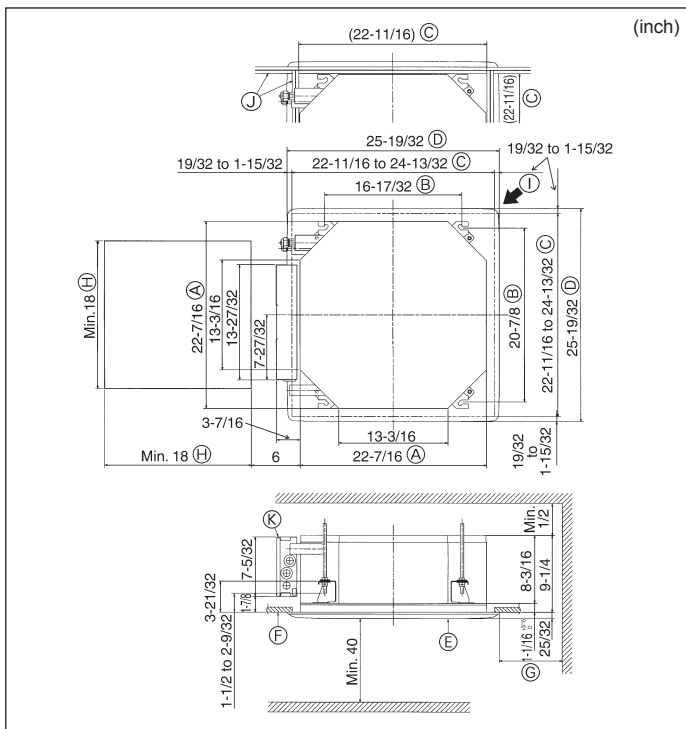

Fig. 3-2
3.2. Ceiling openings and suspension bolt installation locations (Fig. 3-2)
- (A) Outer side of main unit